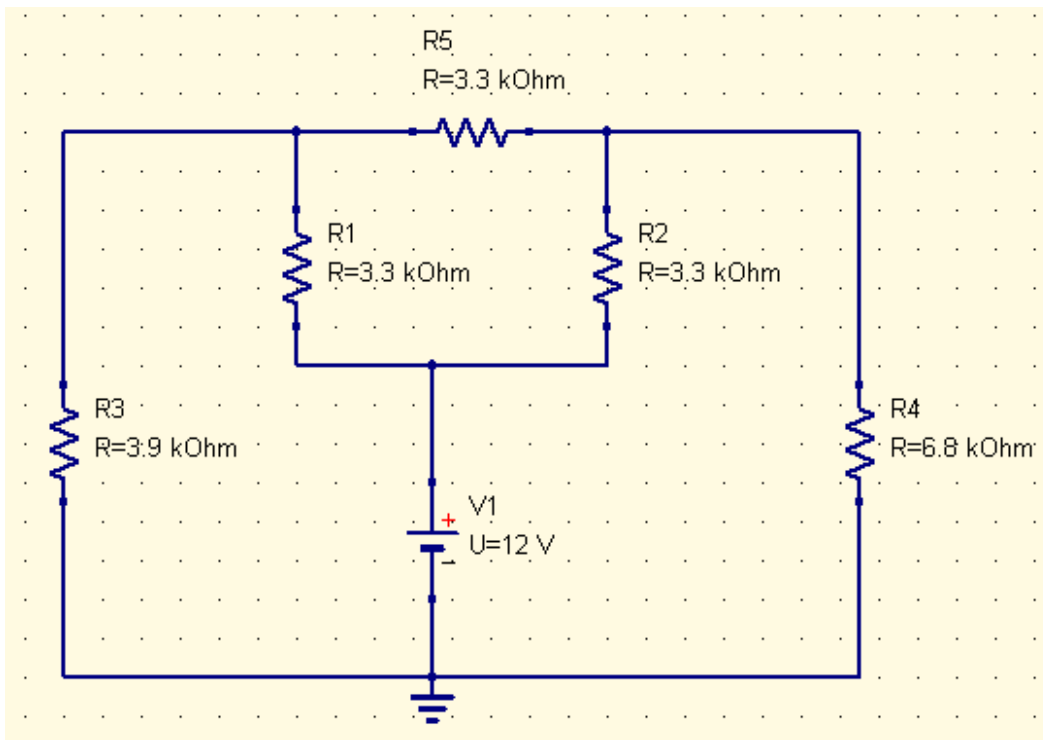

Figure 1
A) Construct the circuit of Figure 1 using a breadboard, with the resistors values as indicated in the circuit. Set the power supply to 12 V and measure the voltages and current across each resistor. Next compute the power dissipate on each resistor as well from the generator and record these values.